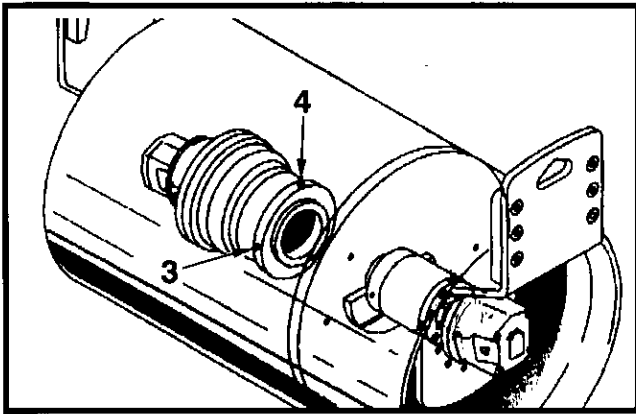

Figure 5-20 Drum Drive Gearbox Oil Level/Fill Plug
1. Ensure machine is positioned on level ground with the plug (3, Figure 5-20 ) in 3 or 9 o'clock position, parking brake applied, and drums chocked.
3. Remove the level plug (3, Figure 5-20).
5. Allow oil to stop flowing from the level plug hole (1, Figure 5-20)